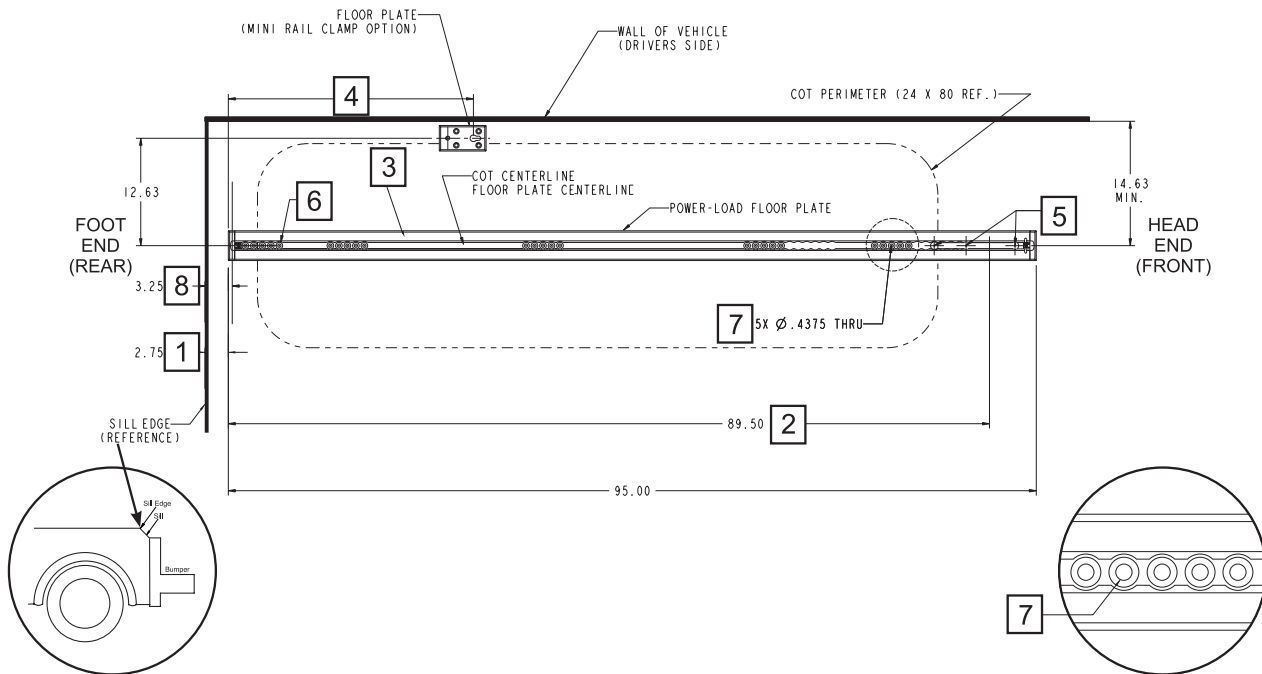
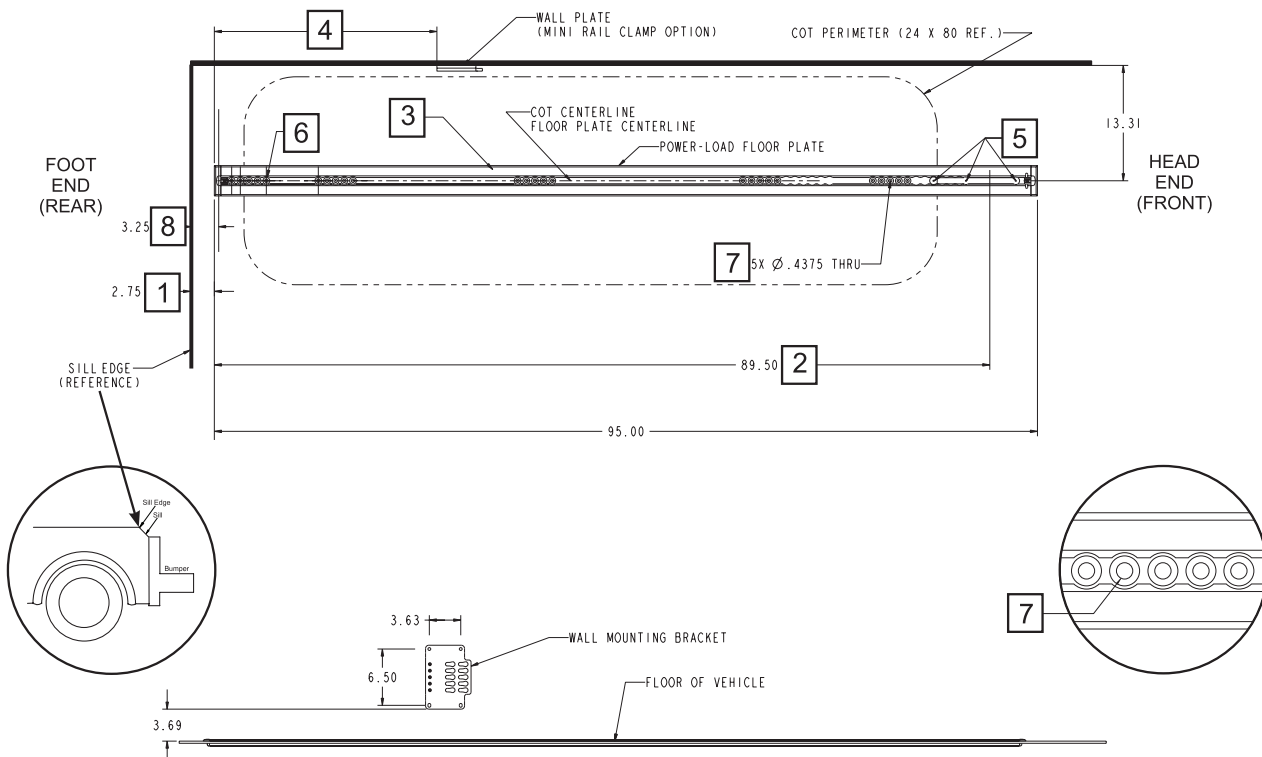

Figure 7: Power-LOAD Floor Plate with Single Standard Floor Mount Cot Fastener Floor Plate (Optional)
Figure 8: Power-LOAD Floor Plate with Standard Wall Mount Cot Fastener Wall Plate (Optional)
Select your configuration (see Figure 7 or Figure 8 on page 22). All measurements are shown in inches.
1. Identify the back-to-front mounting location relative to the door sill. Start at the location where the door sill first drops off as shown in Figure 7 or Figure 8 on page 22 and measure 2-3/4 in (7 cm) inwards. Use a pencil to mark the location along the width of the vehicle patient compartment.
3. Position the floor plate the desired distance from the vehicle patient compartment walls (see Figure 7 or Figure 8 on page 22).
Note: If the floor plate does not fit lengthwise in the vehicle patient compartment, use a saw to shorten the floor plate (see Figure 7 or Figure 8 on page 22). Before cutting the floor plate, remove the front end floor plate end cap. Replace the cap after cutting the floor plate.
- Identify and mark the electrical inlet hole (see Figure 7 or Figure 8 on page 22). This hole will be drilled to 1/2 in (1.3 cm) diameter.
- Identify and mark the fifth hole from the foot end for the drain tube assembly (see Figure 7 or Figure 8 on page 22). This hole will be drilled to 9/16 in (1.4 cm) diameter.